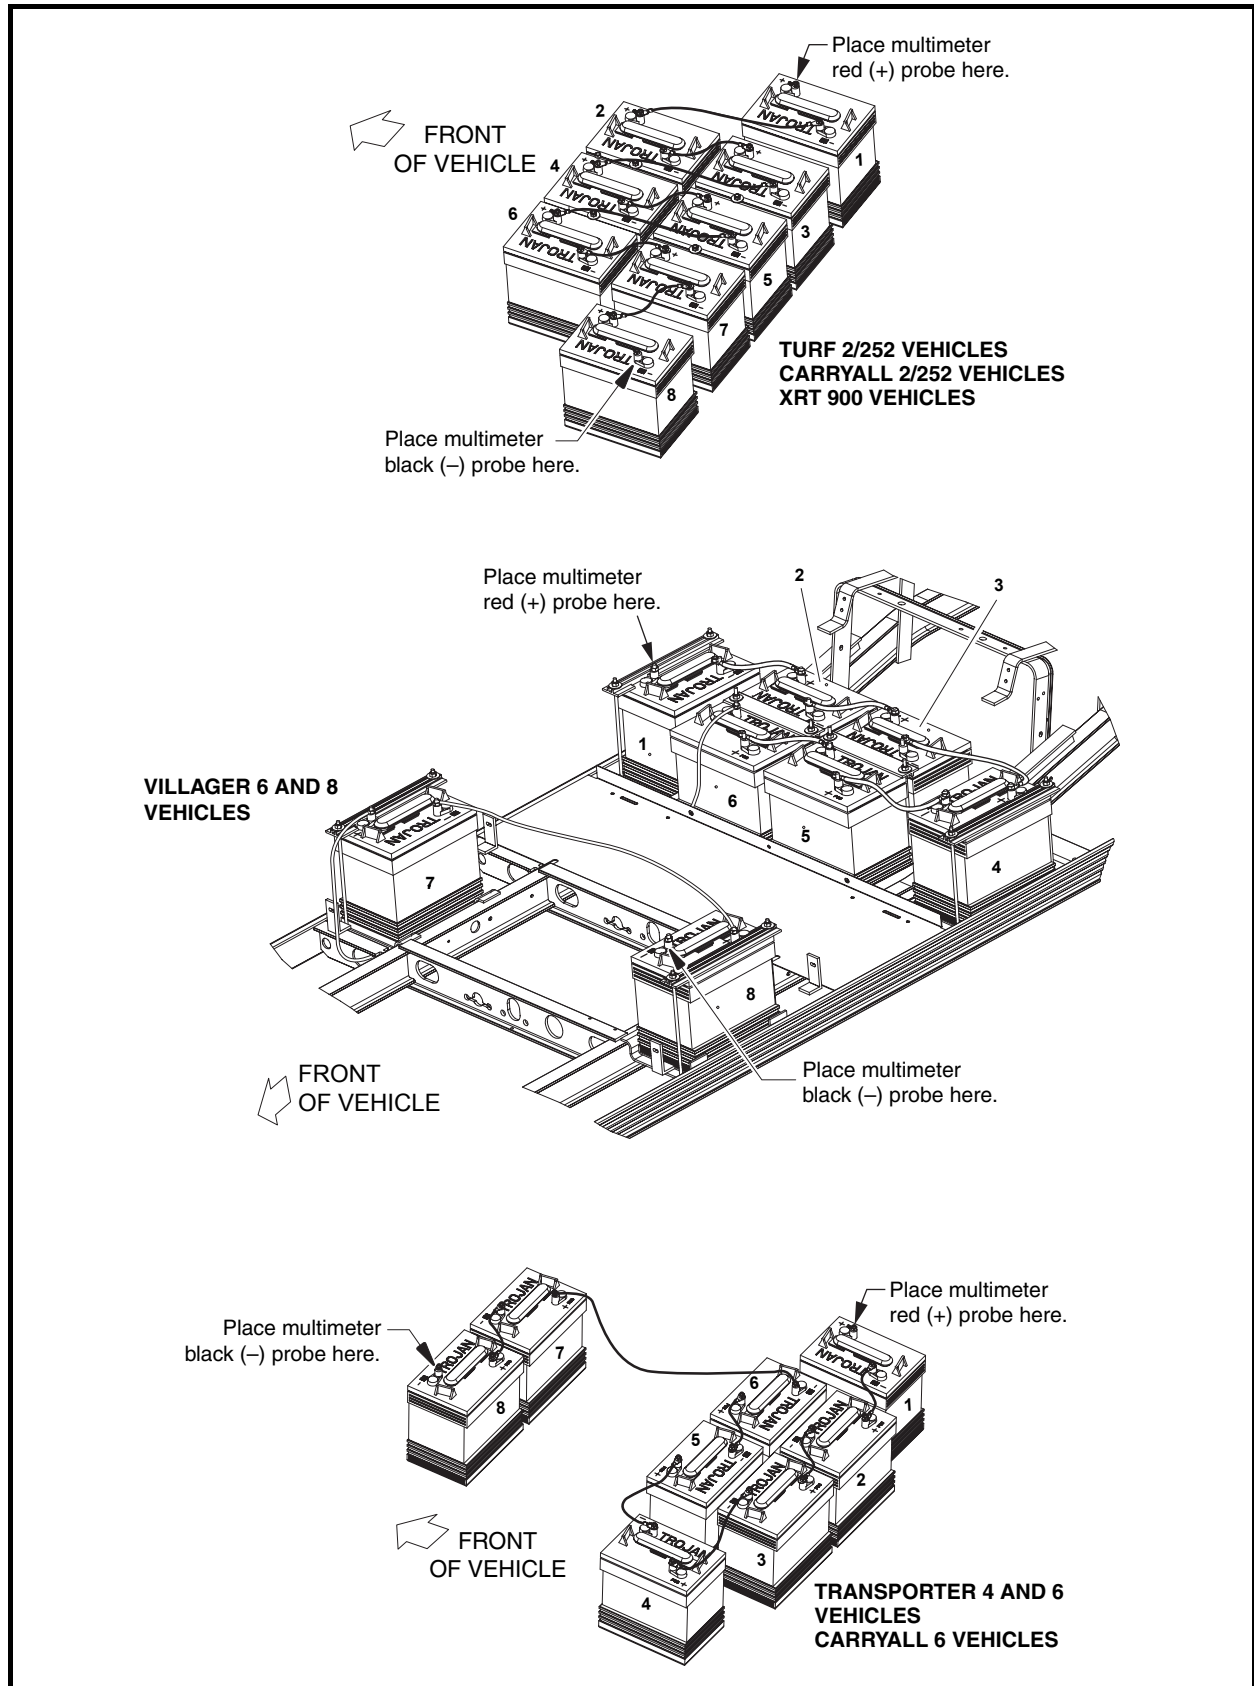

Figure 5-9 IQ Plus Battery Configuration
4. With a multimeter set to 200 volts DC, measure the voltage of the battery pack between the positive (+) post of battery no. 1 and the negative (–) post of battery no. 8 (**Figure 5-9, Page 5-16**). Normal no-load voltage should be between 50 and 52 volts for fully charged batteries. The voltage of the battery pack must be over 32 volts DC to allow the onboard computer to close the charger relay. If battery pack voltage is too low to start charger, temporarily bypass the charger relay. **See Charging a Battery Pack that has Low Voltage on page 5-34.**